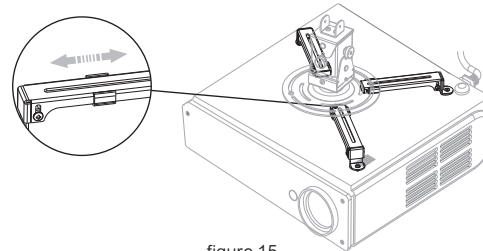

figure 15
2. If there are 3 holes, the installation arms (4-3) need to be taken apart from installation bracket firstly. Connect 3 installation arms (4-3) to the projector, and then connect the installation arms (4-3) to the installation base (4-6). However, the installation base needs to be the center of projector. Figure 15.